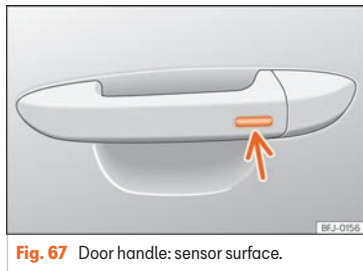

Fig. 67 Door handle: sensor surface.
- OR:** using the Keyless Access system (only locking): Press and hold the locking sensor surface »» Fig. 67 (arrow) on the door handle for several seconds to close the windows and the sunroof. If you release the sensor surface, the closing movement stops.
Press and hold the locking sensor surface >>> Fig. 67 (arrow) on the door handle to close the sunroof. If you release the sensor surface, the closing movement stops.